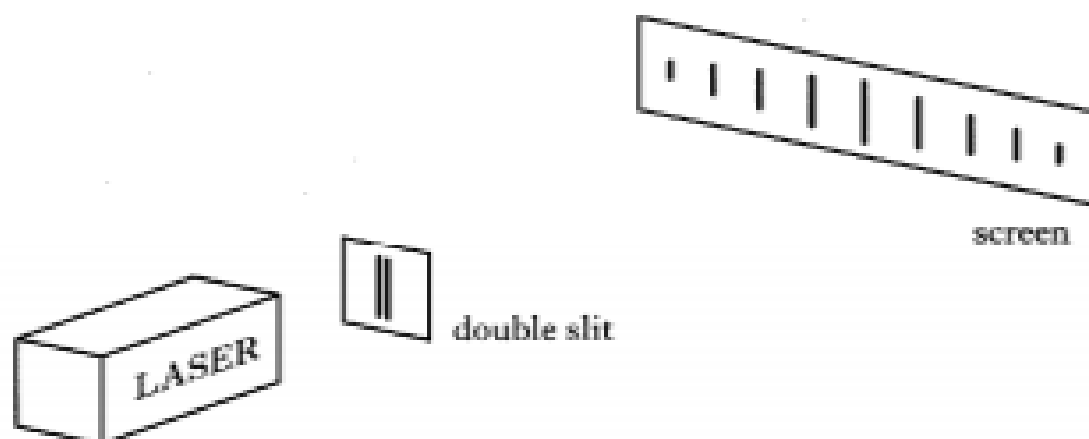

Figure 19
10. A student sets up a Young's slits experiment in order to measure the wavelength of monochromatic light emitted by a laser. The light from the laser passes through a double slit before reaching a screen, where a pattern of light and dark fringes is seen, as shown in Figure 19.